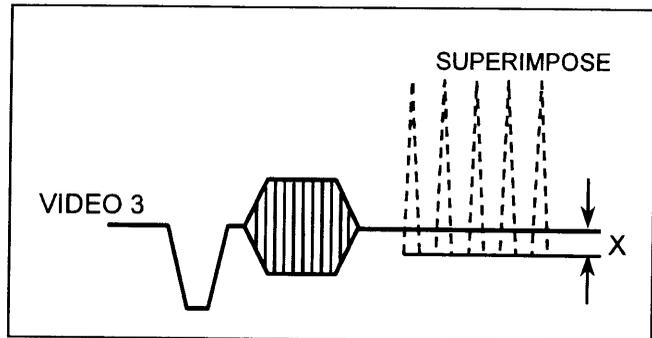

Figure 7
3. Adjust VR4 so that the voltage of the blanking DC and the superimpose DC becomes same level ("X"=0) as shown in Figure 7.